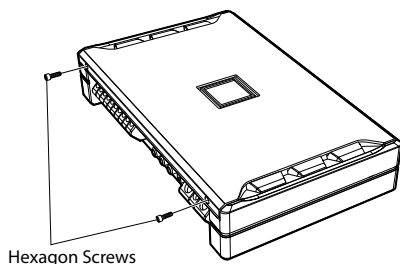

Fig. 1
1. Remove the hexagon screws using the supplied Hexagon Wrench (small). (Fig. 1)